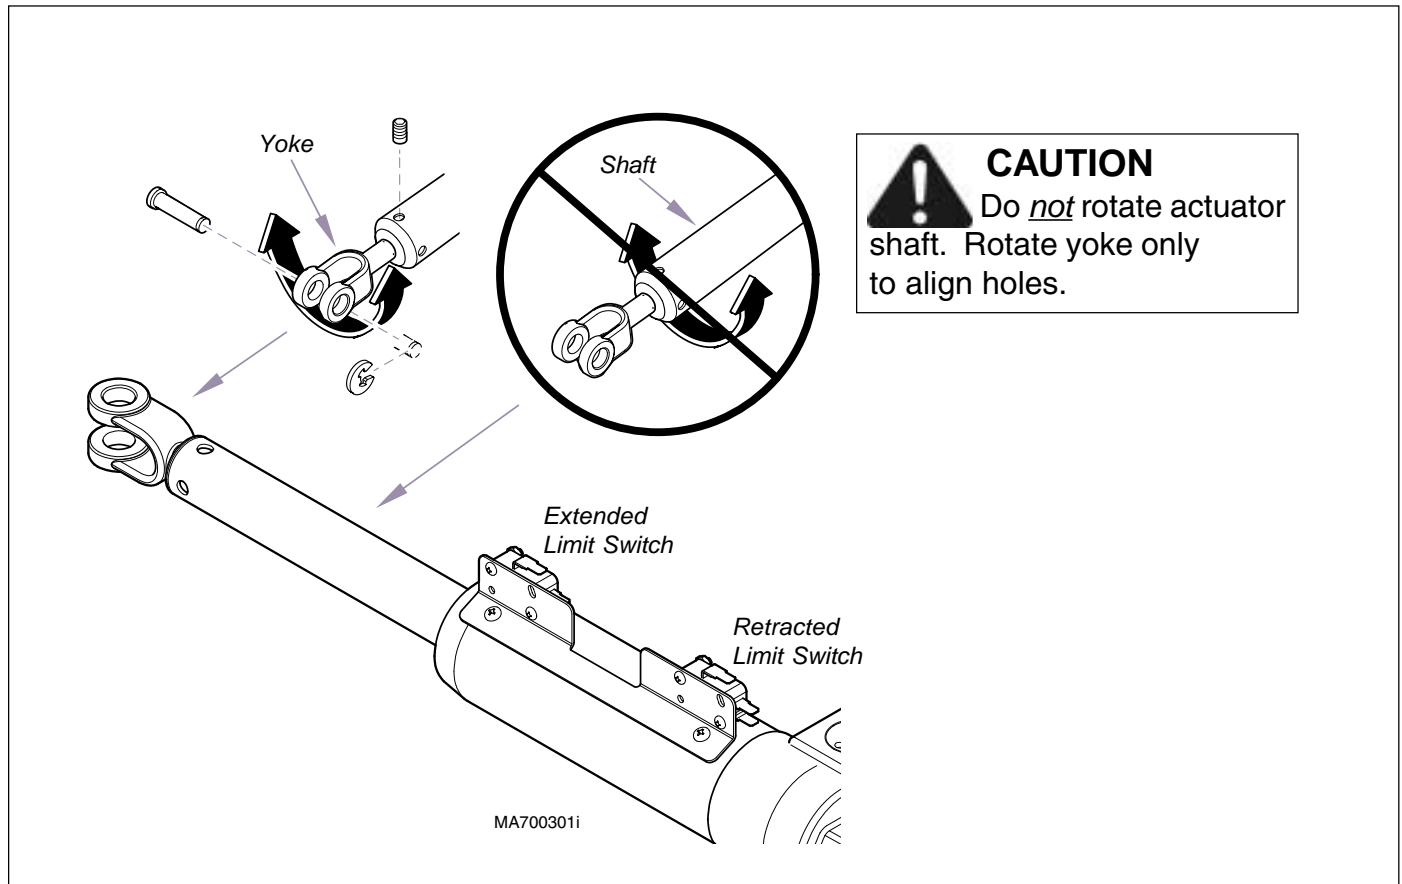

Figure 4-22. Back Actuator Assembly
Do not manually turn actuator shaft by hand (Figure 4-22). Doing so could result in misalignment of internal limit switches. Turn yoke *only* to align mounting holes.
- (1) Secure yoke (Figure 4-22) in position by tightening two setscrews .
- (2) While supporting back section of table top, install back actuator assembly (1) on back weldment bracket (9) and secure with clevis pin (8) and two e-rings (7).
- (3) While supporting back section of table top, install back actuator assembly (1) on seat weldment bracket (6) and secure with clevis pin (5) and two e-rings (4).
- (4) Connect three back actuator wires (2) to three wires (3).
- (5) Secure wires to motor of back actuator assembly (1) with a cable tie.
- (6) Plug power cord into wall receptacle.